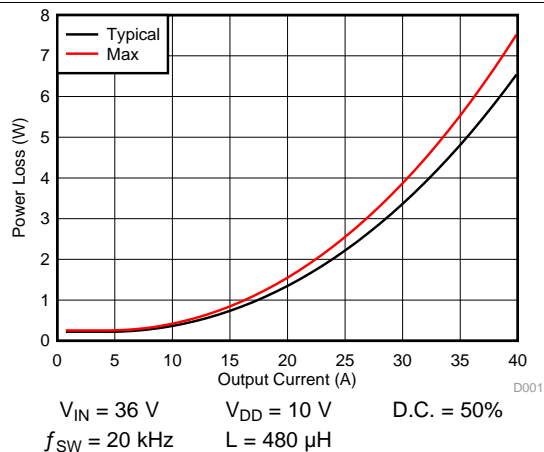
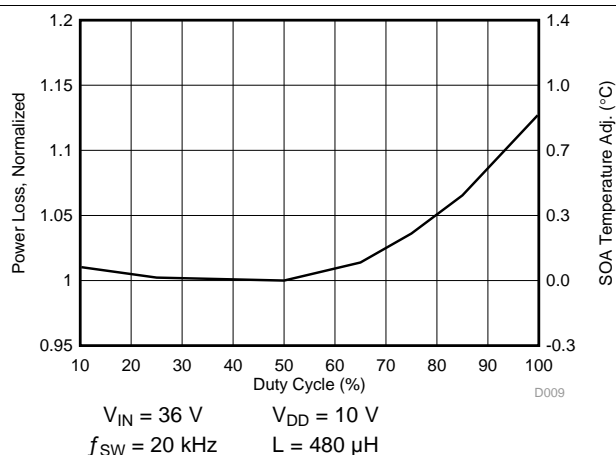

Figure 1. Power Loss vs Output Current
Figure 6. Normalized Power Loss vs Duty Cycle
The typical power block system characteristic curves (Figure 1 through Figure 6) are based on measurements made on a PCB design with dimensions of 4 in (W) × 3.5 in (L) × 0.062 in (H) and 6 copper layers of 2-oz copper thickness. See Application and Implementation section for detailed explanation. $T_J = 125^\circ\text{C}$, unless stated otherwise.
Figure 1 plots the CSD88599Q5DC power loss as a function of load current. The measured power loss includes both input conversion loss and gate drive loss.
- Power loss at 30 A \approx 3.4 W (Figure 1)
- Normalized power loss for duty cycle \approx 1.12 (Figure 6)
- SOA adjustment for duty cycle \approx 0.7°C (Figure 6)